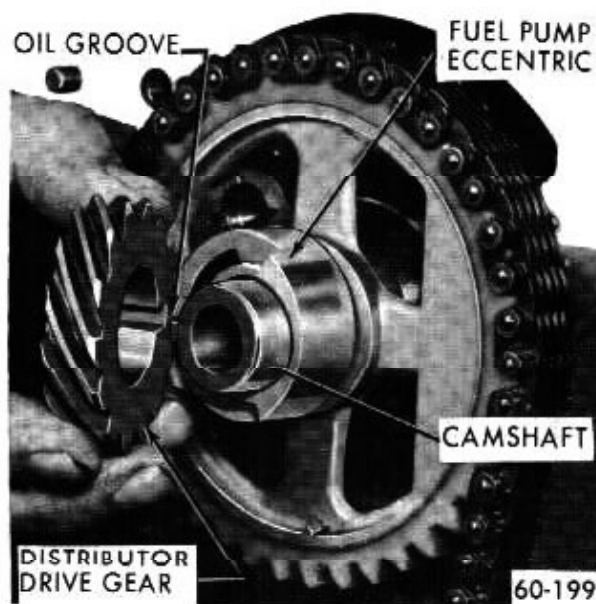

Figure 60-112 - Fuel Pump and Distributor Drive Gear Installation - 350 Cu. In.
3. Remove bolt and special washer retaining camshaft distributor drive gear and fuel pump eccentric to camshaft forward end. Slide gear and eccentric off camshaft. See Figure 60-112.
5. Slide fuel pump eccentric on camshaft and Woodruff key with oil groove forward. See Figure 60-112.
6. Install distributor drive gear. See Figure 60-112.